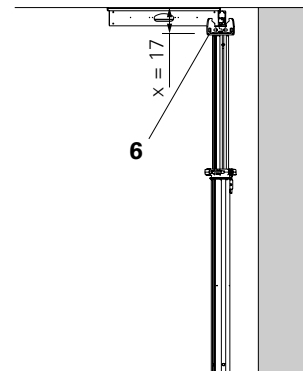

Fig. A2.07
1. Adjust the extension lengths of the props. Clear room height minus dimension x (Fig. A2.07). Take into consideration the different overall heights of the main beams: Main Beam SLT 225 = 24 cm / Main Beam SLT 150 = 19 cm.